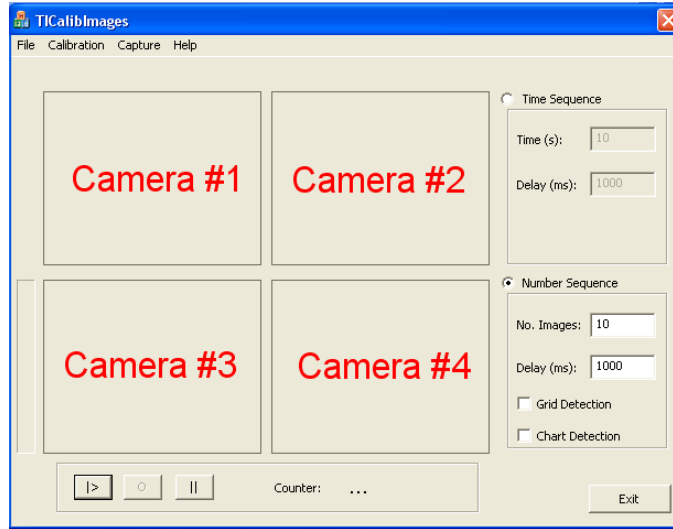

Figure 1: Main dialog window for **TiCalibImages**
Graphic user interface for **TiCalibImages** is shown in Figure 1. The buttons on the bottom are similar to VCR controls and allow the user to start live capturing, pause capturing or record the images. When recording images, dialog box for folder selection will appear. Folder name will be automatically created from current date information. Afterwards, image frames will be recorded. The number of images to record can be controlled by changing the settings on the right side of the dialog (Figure 1). Two recording modes are possible: (1) recording a time sequence with specified